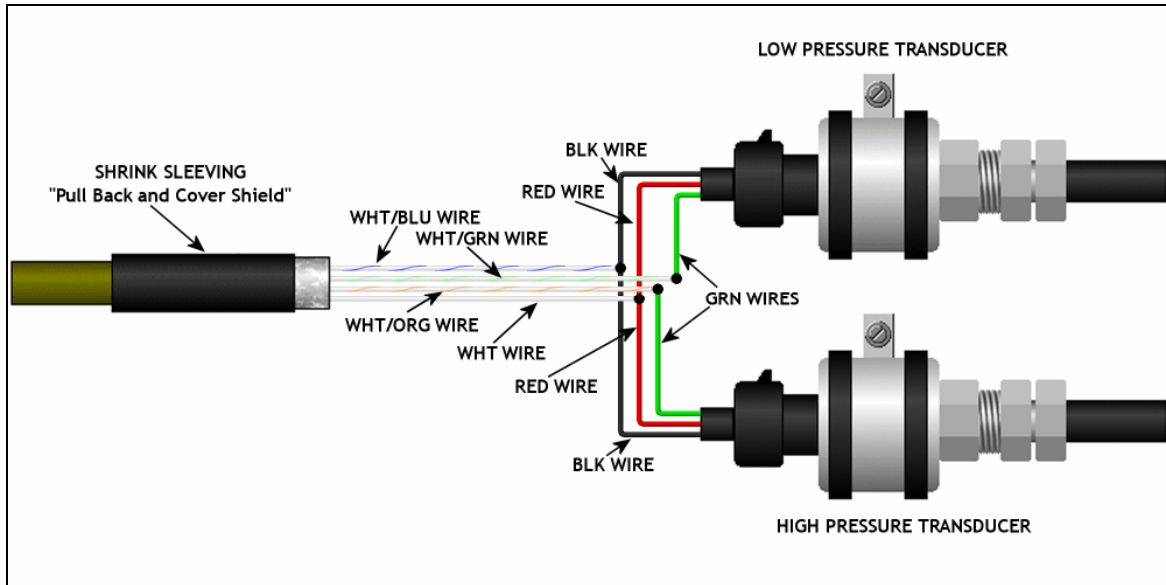

Figure C- 9: Torque Transducer Wiring
- 010 Verify that the proper connectors are in place. Refer to Figure C- 9.